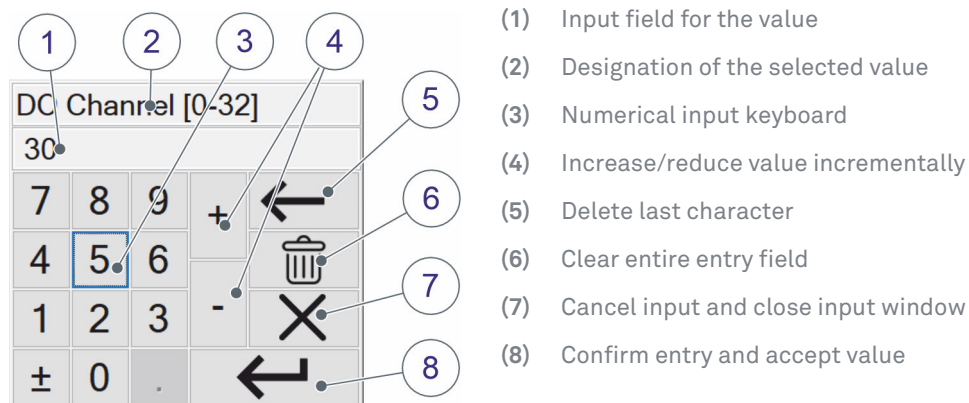

Figure 2.2: Input window
(For information on operation see Figure 2.2 on page 6)
- (1) By double-tapping on the chart, you can enter a desired period in hours (see *Figure 2.2 on page 6*).
- (2) Tapping on the left arrow starts the period earlier.
- (3) Tapping on the right arrow starts the period later. The values are shown up to max. the current time. The display is regularly updated.
- (1) By double-tapping on the chart, you can enter a desired period in minutes (see *Figure 2.2 on page 6*).